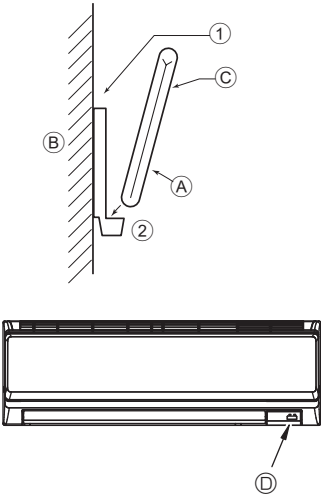
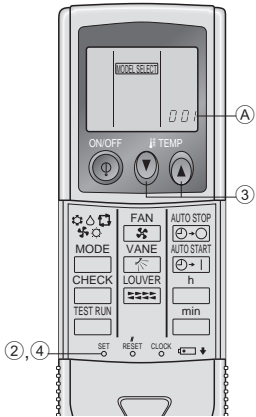

Fig. 6-2
Fig. 6-3
2) Installation method (Fig. 6-2)
① Attach the remote controller holder to the desired location using two tapping screws.
② Place the lower end of the controller into the holder.
3) Setting (Fig. 6-3)
- ① Insert batteries.
- ② Press the SET button with something sharp at the end.